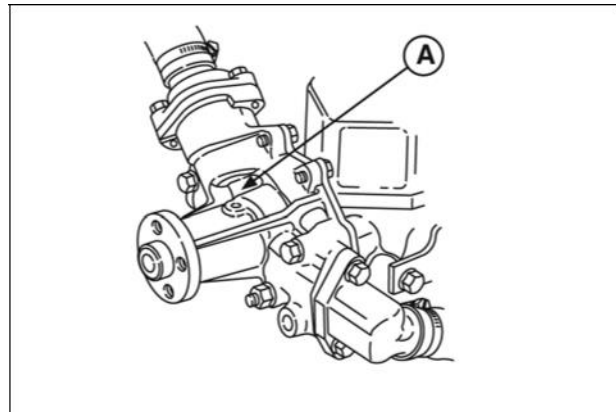

Figure 6
1. Inspect water pump for signs of leaking at vent holes (A, Figure 6), mounting surfaces, and water pump pulley shaft.